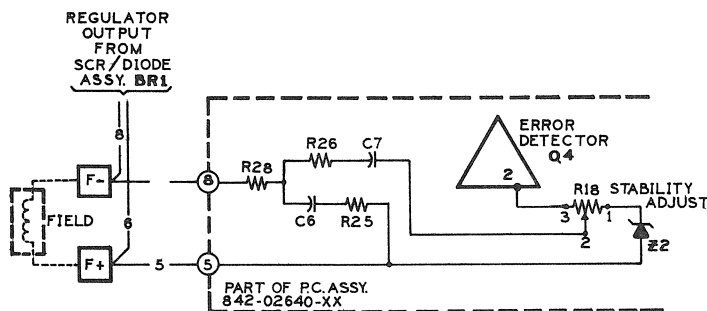

Figure 2-13 Negative Feedback System Loop Stability Circuit
2.1.6.1 The stabilization circuits provide stable operation under all operating conditions. All components comprising the stabilization circuits are contained on the etched circuit board. Two separate stability circuits are incorporated in the KCR 560 voltage regulator. They are; a AC negative feedback circuit and a negative feedback system loop stability circuit. (See figures 2-13, 2-14 and 6-3.)